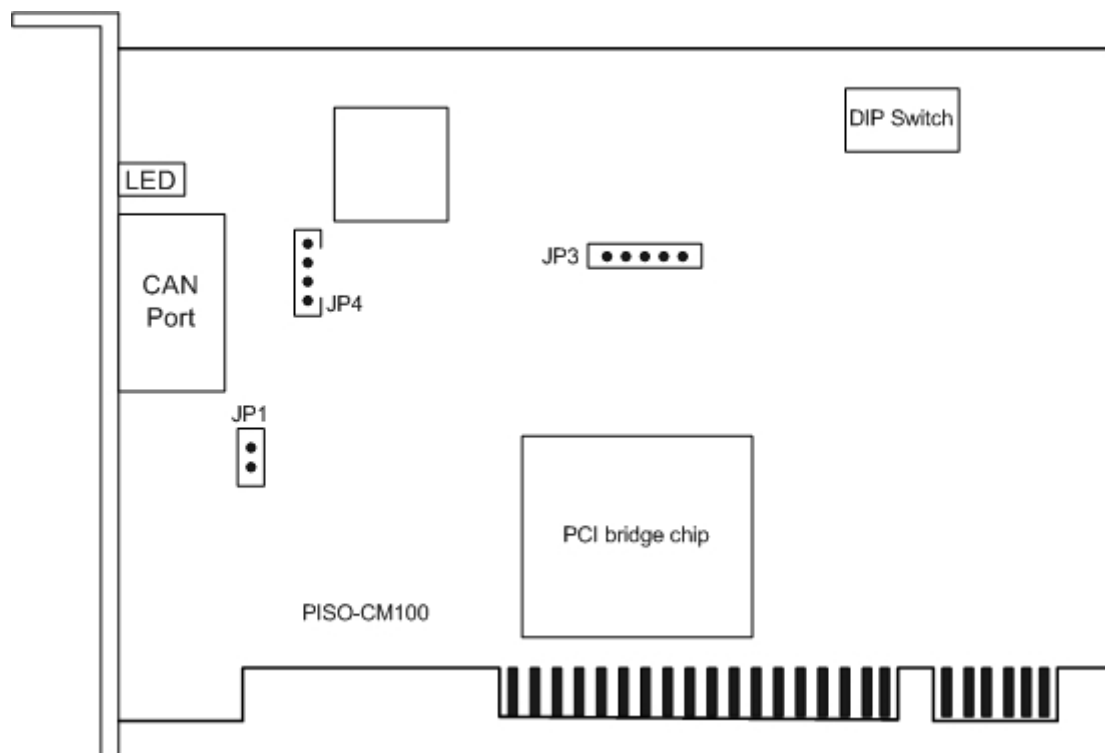

Figure2.1 PISO-CM100-D board layout
2. Configure the DIP switch and JP1 of the PISO-CM100-D/T for the board No. and the terminal resistance. The more detail information could be found on the figure 2.1 and table 2.1.